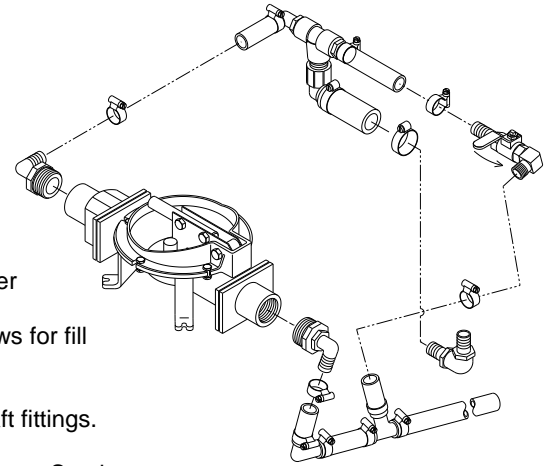

FIGURE 1
4. To flush aircraft toilet, the three way ball valve on the fill pump must have its handle toward the hand pump as shown in **Figure 1**. Follow aircraft manufacturer's requirements for flushing. Six (6) strokes of fill pump will deliver one (1) gallon.